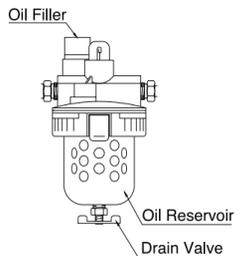

Fig.13
④Remove Oil and Moisture Regularly (Fig.13)